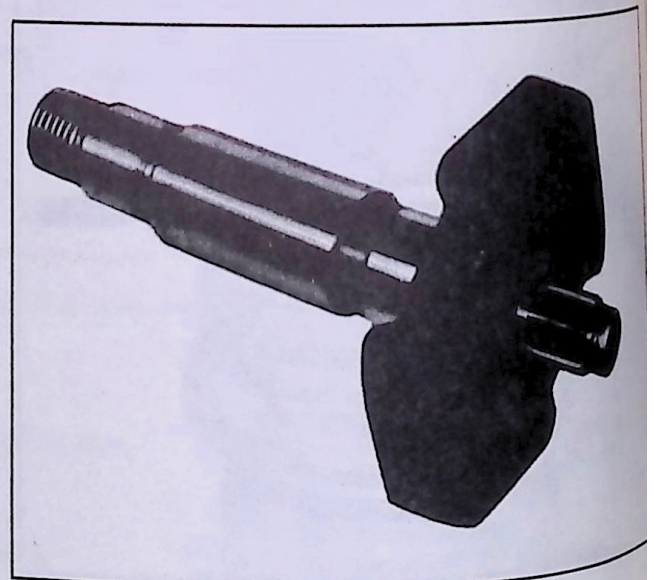

Fig. 22—Installing Thrust Plate
3. Install the thrust plate on the shaft with the ported face towards the splined end of the shaft (fig. 22).